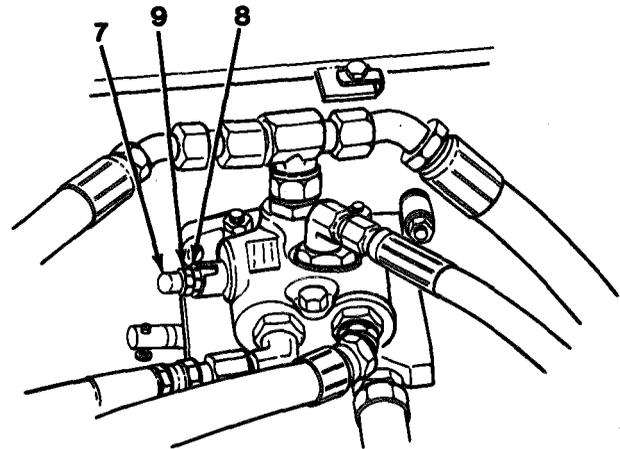

Figure 16-4
5. Remove acorn nut (7, Figure 16-4) from relief on winch valve.